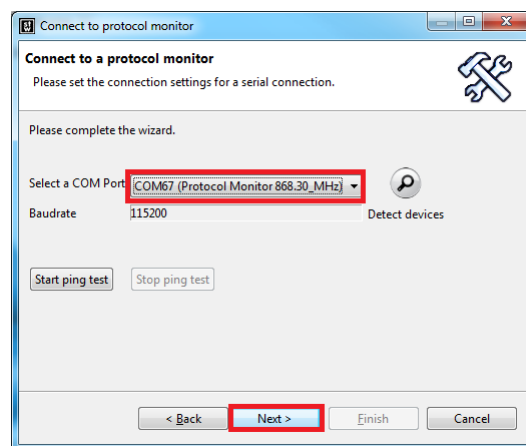

Figure 52: Select the protocol monitor device
- (4) Select the protocol monitor device and press 'Next' as shown in figure 52.